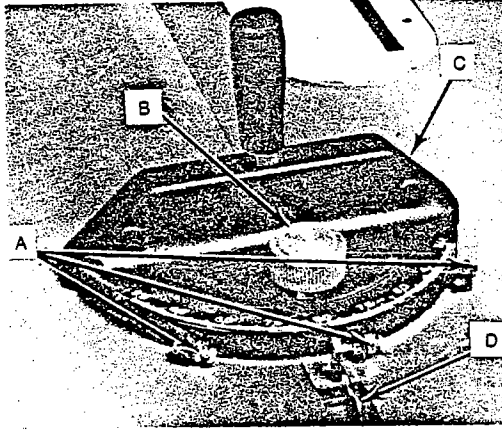

FIGURE 15
To adjust index stop, tighten or loosen one of three adjusting screws A (Figure 15) against stoplink D.
1. Loosen lock knob B (Figure 15), and move body of miter gauge C to desired angle. It stops at 90° and 45° both right and left.